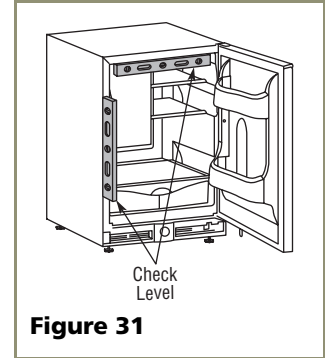

Figure 31
1. Use a level to check the levelness of the unit from front to back and from side to side. Level should be placed along top edge and side edge as shown (see **Figure 31**).